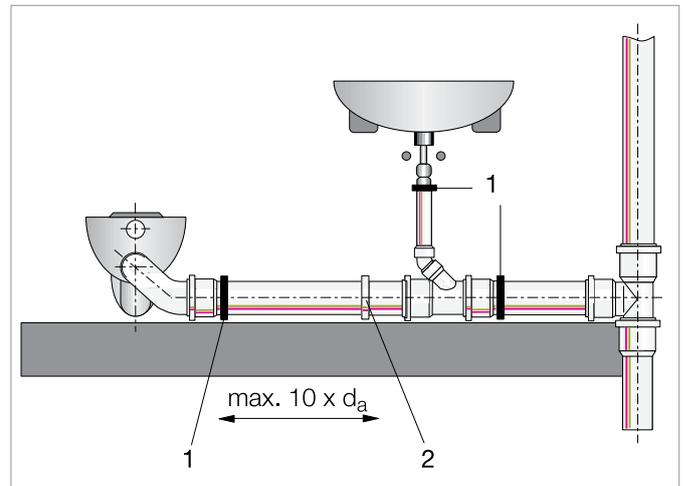

Fig. 7-5 Installation plan for horizontal pipeline
A plan for effective bracketing of a horizontal sound-insulating pipe with RAUPIANO PLUS is displayed graphically (see Fig. 7-5).
- The distance between the fixing clamp and the guiding clamps may not exceed ten times the pipe outer diameter (see Fig. 7-5): Spacing $\leq 10 \times d_a$.